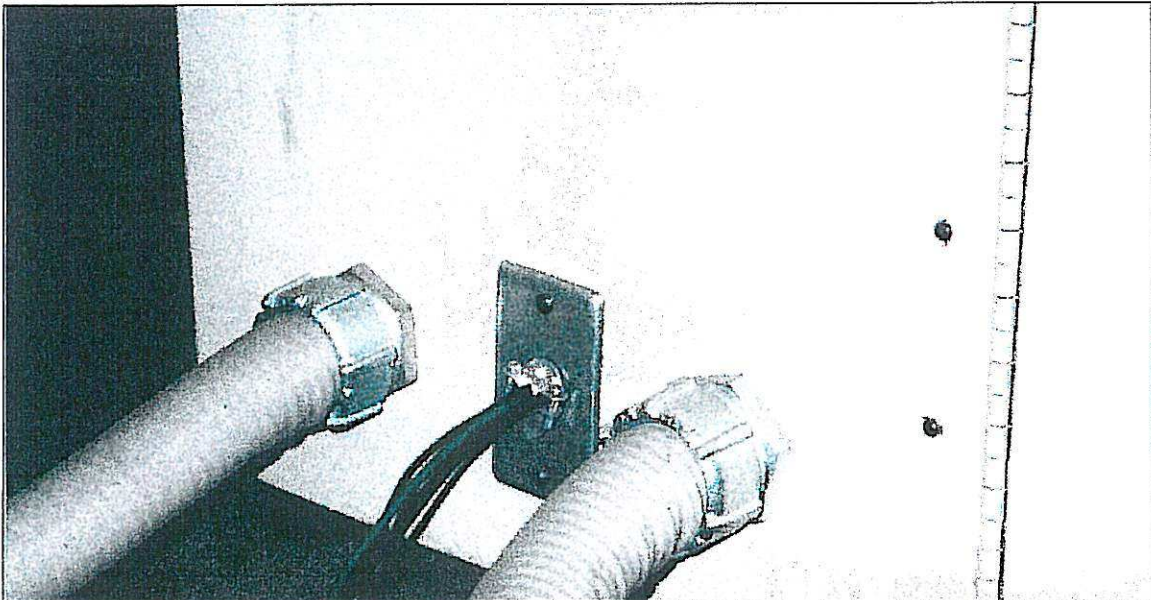

Figure 2.10
- O. The factory power line must be connected to the computer cabinet which is separate from the bridge. A junction box is located on the lower left side. See *Figure 2.10*.